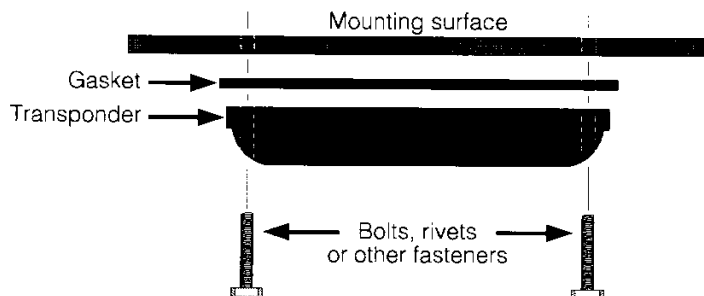

Figure 9. Heavy Duty Tag transponder
- Mount the gasket and transponder with screws, bolts or rivets (not included) over the drilled holes as shown in Figure 9.